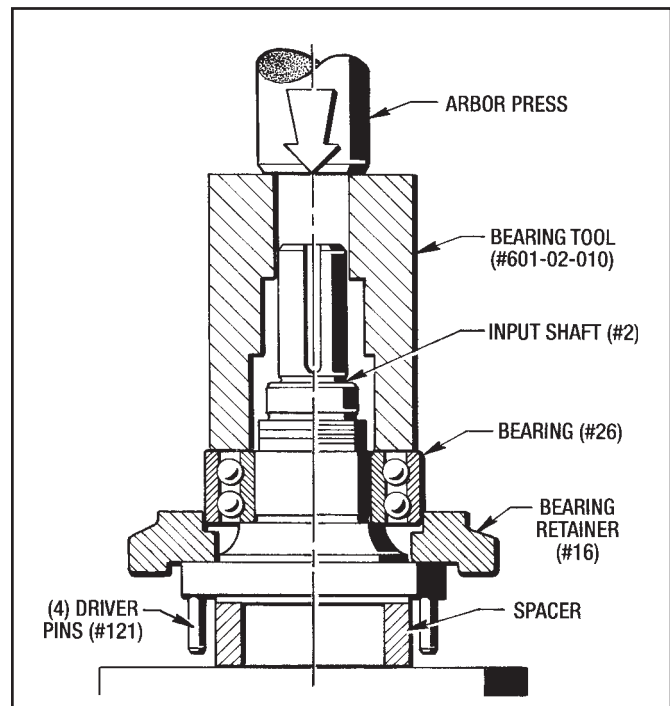

Figure 9.12 - Installing Bearing (#26) on Input Shaft (#2)
2. Press the Bearing (#26) on to the Input Shaft (#2) with the Bearing Assembly Tool #601-02-010 and an Arbor Press until it bottoms out on the shoulder. (See Figure 9.12)